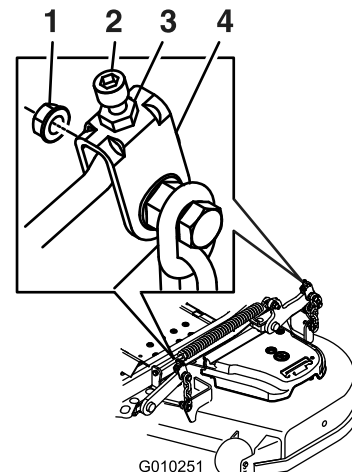

Figure 92
11. For mower decks shown in Figure 92, fine-tune the adjustment nut on the front deck lift assembly by turning it (Figure 92).